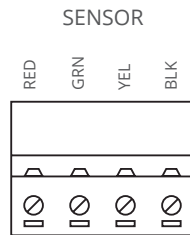

Figure 3
- Connect the four colour-coded wires to the Sensor Interface plug for the required zone 1-12 (see Fig 3).